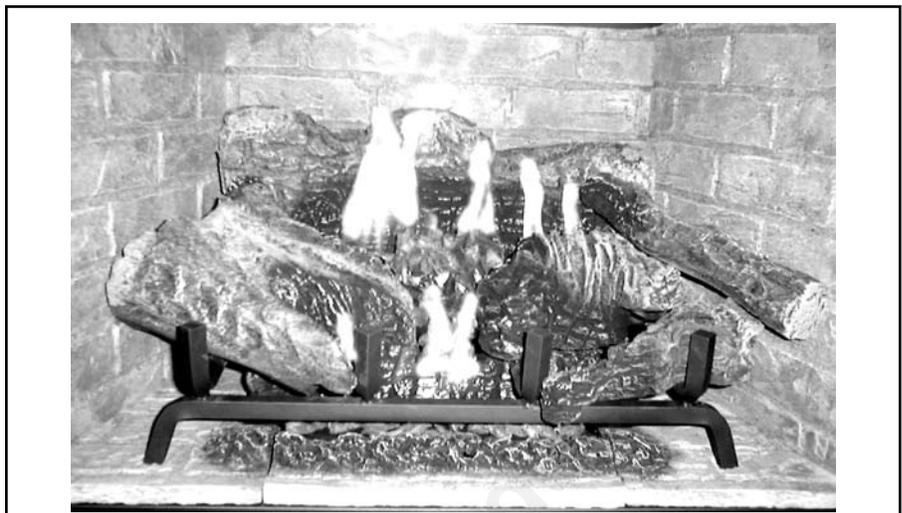

Figure 14
3. Allow the burner to operate for at least 15 minutes while observing the flame continuously to ensure that the proper flame appearance has been achieved (see **Figures 14 or 15 on Page 17**). If the following conditions are present, adjust accordingly.
5. When satisfied that the burner flame appearance is normal, close the lower control compartment door (see **Figures 14 or 15 on Page 17**).